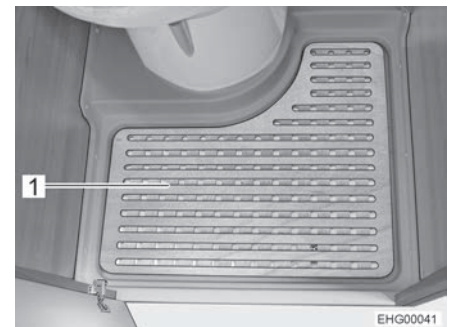

Fig. 80 Removable floor plate
- Take out the removable floor plate (Fig. 80,1) for showering.